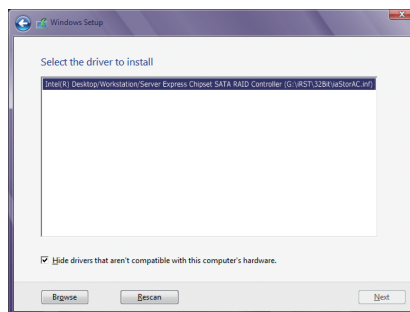

Figure 1
When a screen as shown in Figure 1 appears, select **Intel(R) Desktop/Workstation/Server Express Chipset SATA RAID Controller (D:\IRST\32Bit\public\AC.inf)** and click **Next** to load the driver and continue the OS installation.